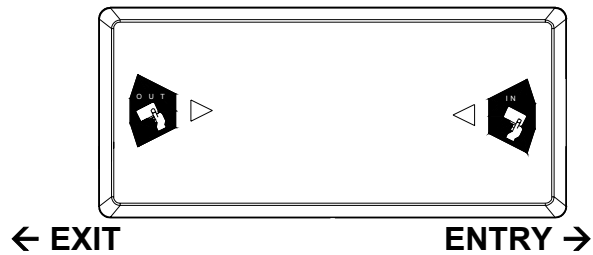

*Figure 11: Attaching the module to the wall-mount frame*
2. Attach each RTU module to the wall-mount frame as illustrated in Figure 11.